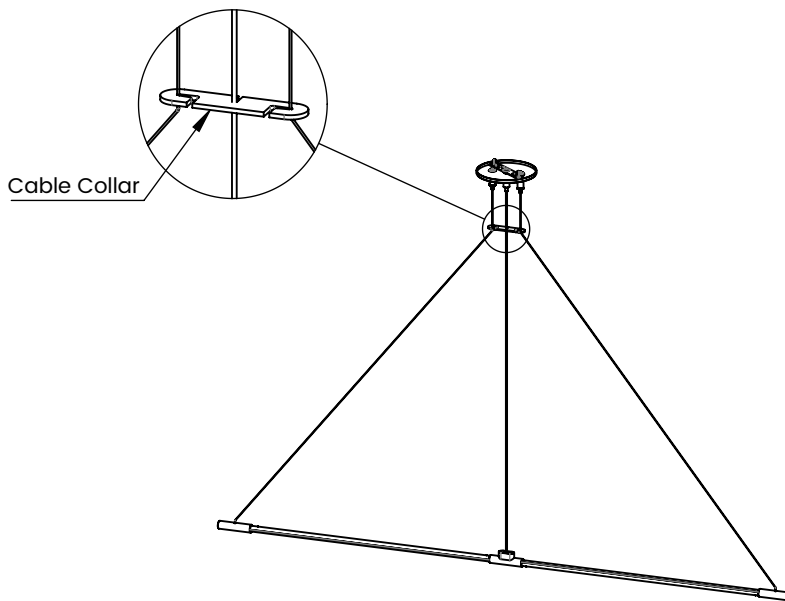

FIGURE 10
2. Install the cable collar as shown in Figure 10.